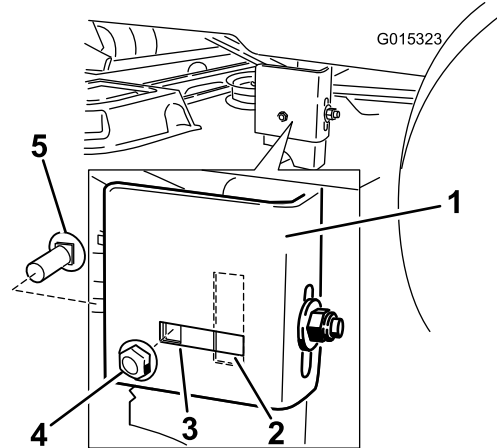

Figure 49
7. Move to the left side of the machine. Remove the side carriage bolt and locking nut from the fixed position and install it into the rear, slotted position (Figure 49). Leave the lock nut slightly loose.